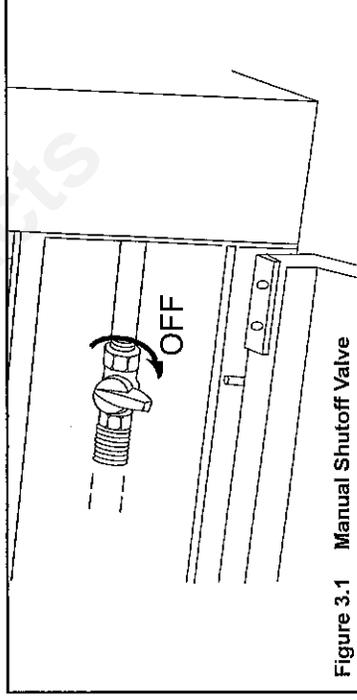

Figure 3.1 Manual Shutoff Valve
- To turn off the gas, locate the manual shutoff valve in the control area in the bottom of the appliance. Turn the manual shutoff valve so it is perpendicular to the gas line (Figure 3.1).